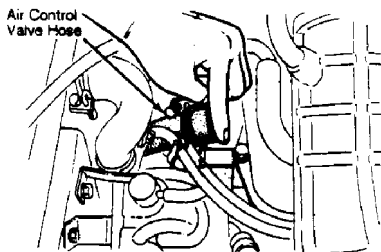

Fig. 3: Checking Air Control Valve
2) Disconnect air cleaner-to-air control valve hose at air cleaner. Place a finger over the hose opening. Increase the engine speed and make sure that air flows out when the engine speed is 1500-2500 RPM or higher. See Fig. 3.